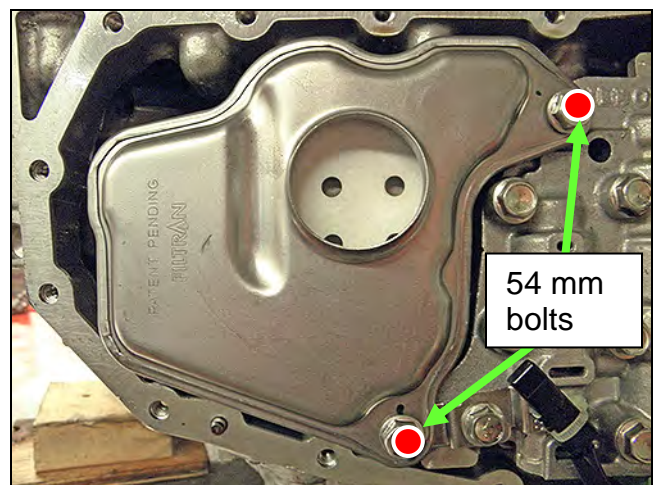

Figure 10A
6. Install the new oil strainer with its new O-ring seal with two (2) bolts (Figure 10A).